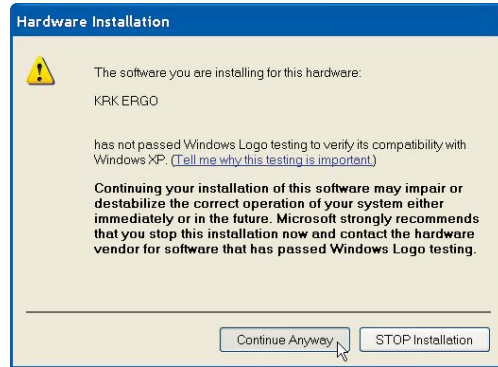

Figure 3.17
12. Click **Continue Anyway**. (Figure 3.17)